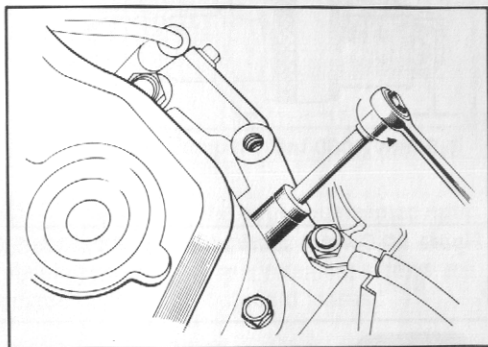
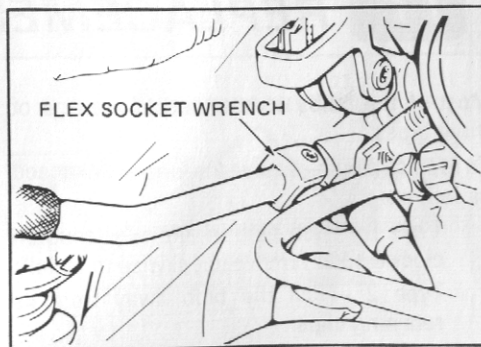

Figure 3 - Removing spark plug 4-cylinder
Figure 4 - Removing spark plug 6-cylinder
- Remove the first spark plug using a 5/8" deep socket. (Turn counter-clockwise.) See Figure 3 (4 cyl.) or Figure 4 (6 cyl.).